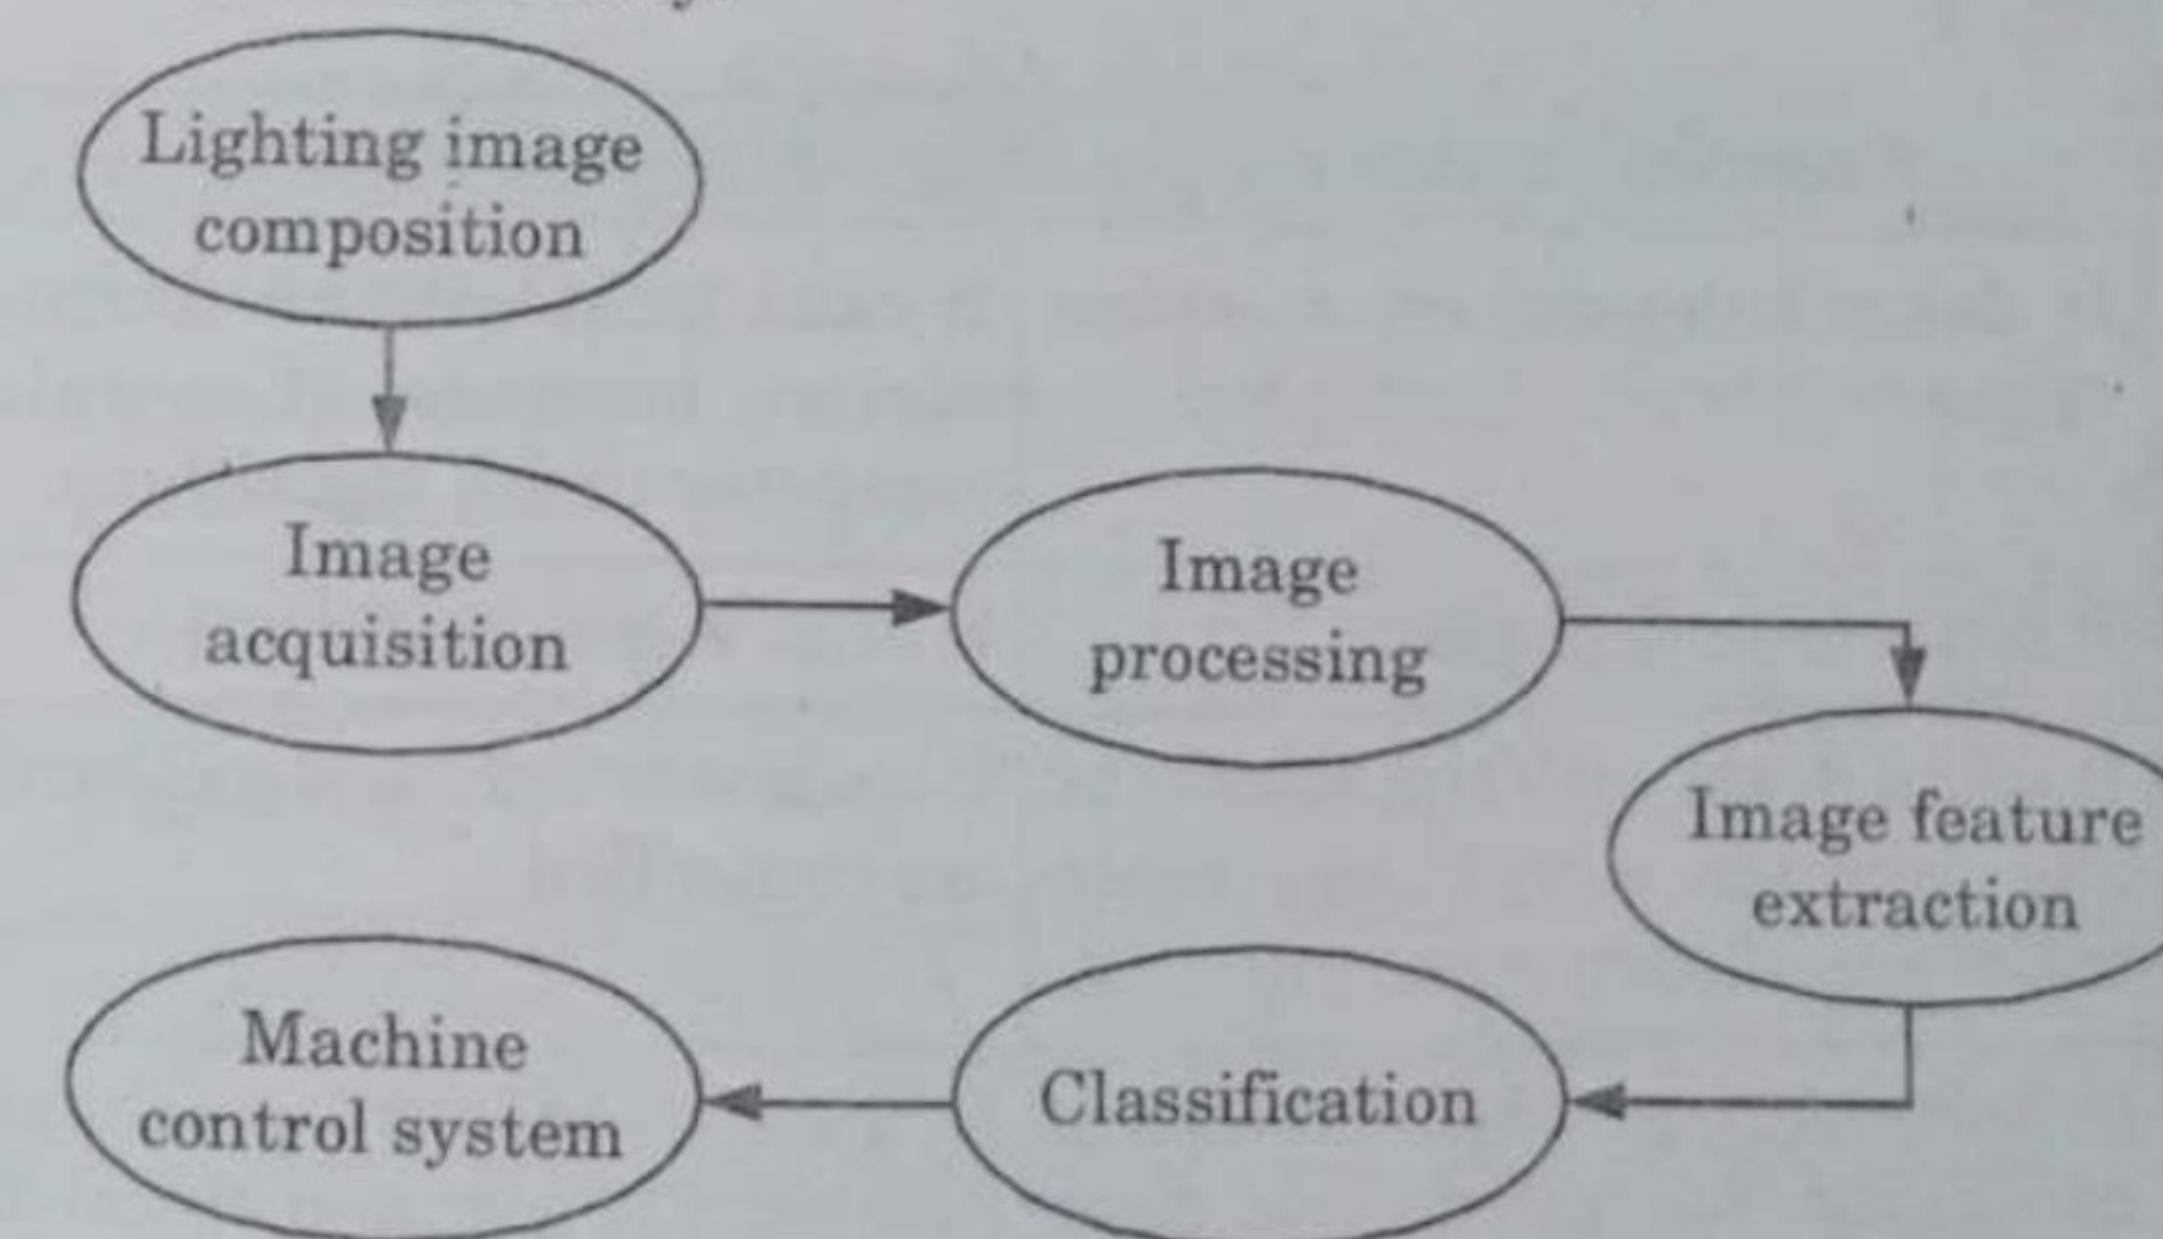

Fig. 3.1.1. Process flow of a machine vision system.
1. Machine vision systems analyze images from cameras to generate image feature data that guides robotic and automation machines in their understanding of the physical world as shown in Fig. 3.1.1.